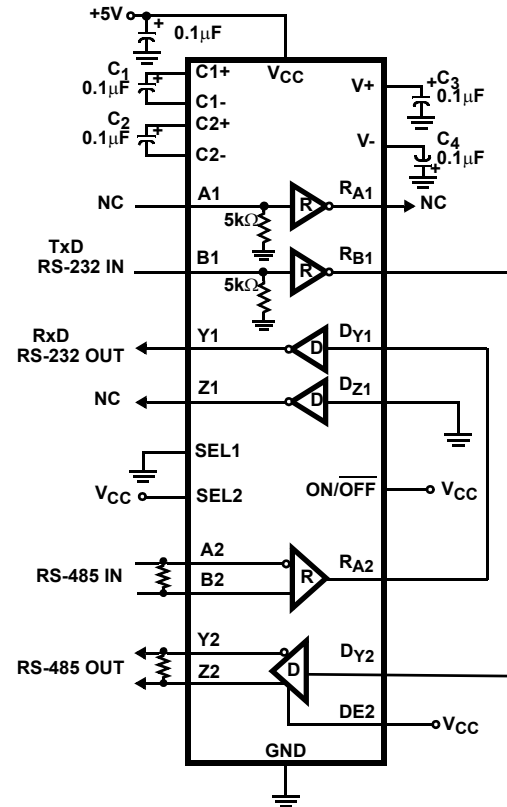

FIGURE 1. SINGLE IC RS-232 TO RS-485 CONVERTER
This two port dual protocol IC is ideal for implementing a two wire (RxD and TxD) RS-232 to RS-485 converter, as shown in Figure 1. To evaluate this circuit using the eval board (starting with the default configuration): install the "B1" (4) jumper to connect the 50 $\Omega$  termination on the input; remove the "DY1 (DZ/SLEW)" (23) and "DY2" (20) jumpers; connect a wire from the "RB1 (RA)" test point to the DY2 test point ("TP19"); connect a wire from the "RA2 (NC)" test point to the DY1 test point ("TP20"); connect the port 2 "external loopback" jumpers (9 and 10), and move the "SPA" (16) and "SPB" (17) jumpers to the "LOW" positions to set the RS-485 Tx speed to the medium data rate option. Note that the RS-232 Tx output (Y1) is unloaded in this configuration, while the RS-485 Tx output drives a double terminated load (R13 and R14). The RS-232 output can be resistively loaded by looping it back to the "A1" input via the "A1/Y1\_LB" (5) jumper, and can be capacitively loaded by soldering the desired load value in position C4. To add a differential capacitive load to the RS-485 driver, simply solder the capacitor on top of termination resistor R13, or solder a capacitor across the C3 and C5 pads that connect to Y2 and Z2, respectively.